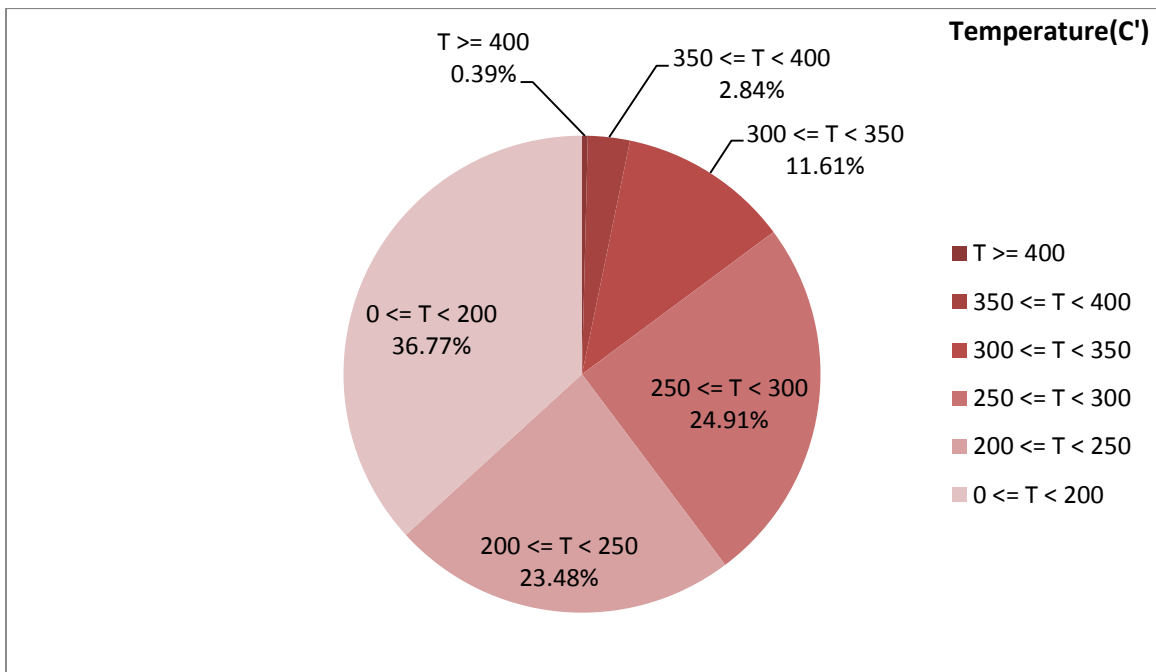

Figure 2-Temperature distribution over the working hours
- Figure 2 displays flow temperature distribution for DPF's upstream. It can be obviously observed that 0.39% of total working time temperature is above 400°C. And 3.23% above 350°C.